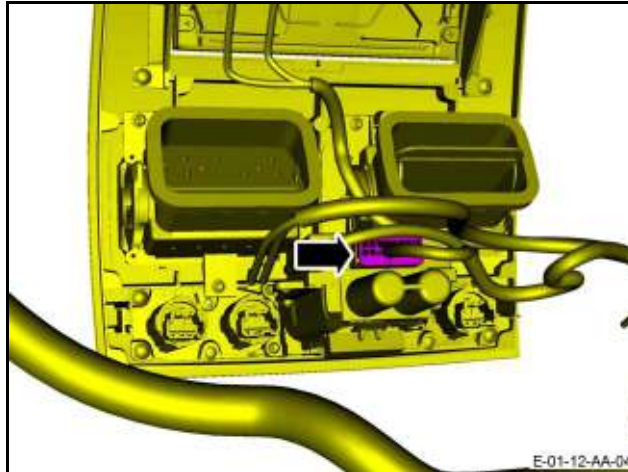

Figure 9
11. Connect the electrical connector to ignition start/stop switch (refer to Figure 9).